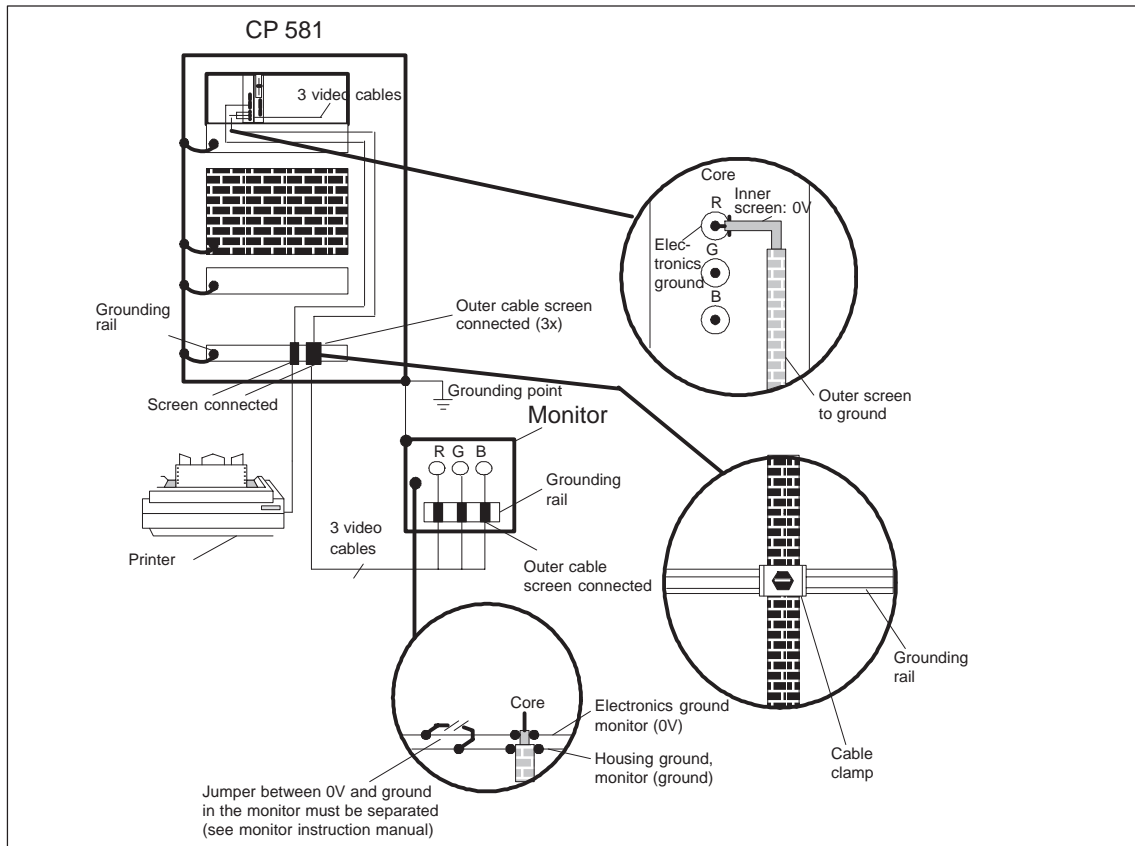

Figure 2-14 Cable Connection to Grounding Rails
- When using triax cables, only connect the outer screen of the monitor cable to the housing potential of the process monitor (see Figure 2-14).
- Isolate the electronics ground of the monitor (see Figure 2-14) from the housing ground. The separation has already been made in the Siemens multistandard color monitor 6AV1 414-0AA00 listed in Chapter 6.